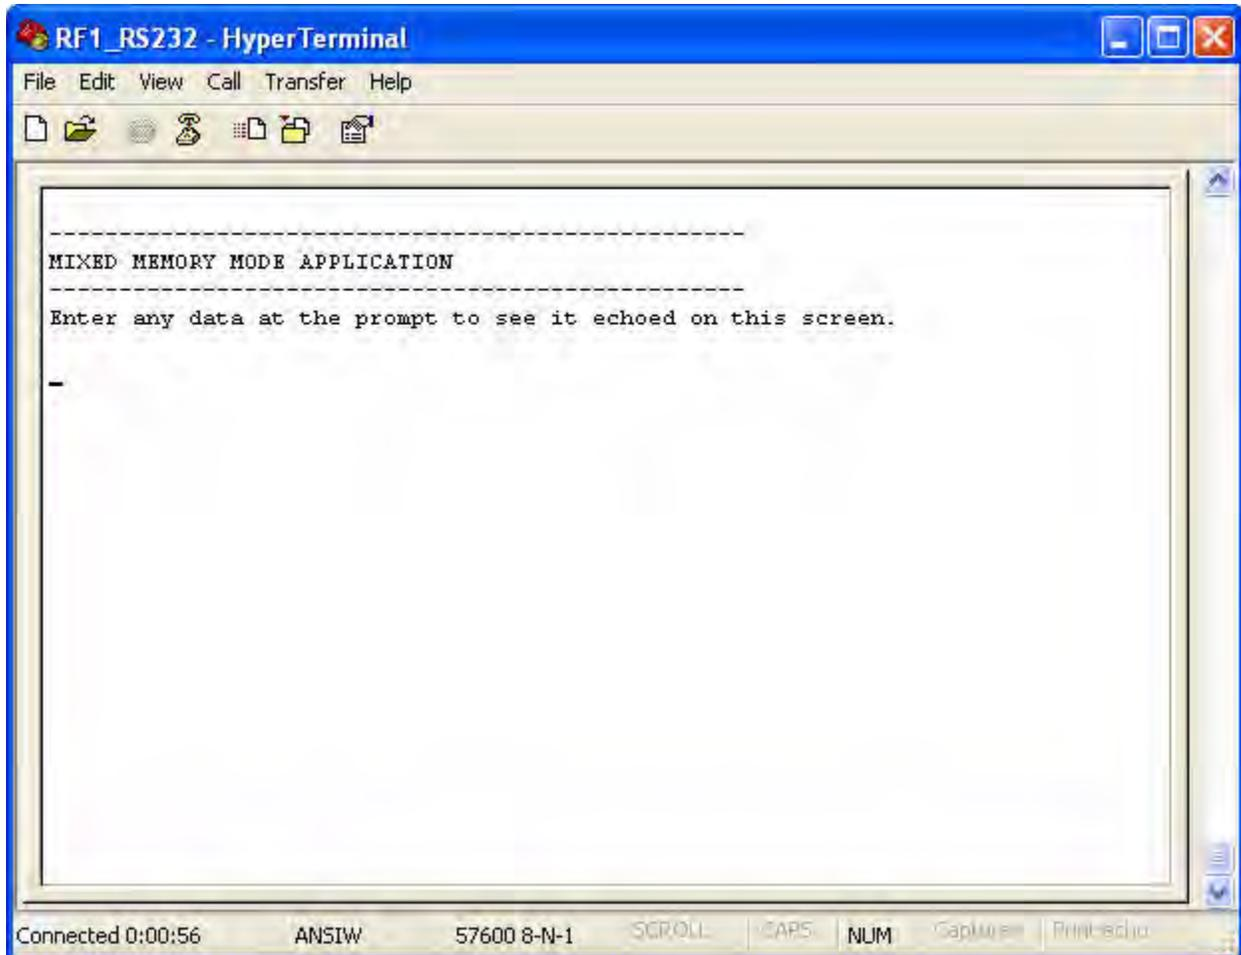

Figure 9. Welcome Message
3. Apply power to the eZ80F91 Modular Development Kit. A welcome message should appear in the HyperTerminal, as shown in Figure 9.